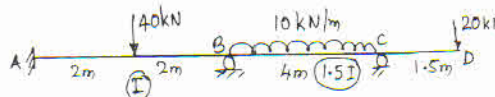

Fig Q2
- 2 Analyse a continuous beam shown in Fig Q2. Using slope deflection method. The support 'C' sinks by 10mm. Take $EI = 3000 \text{ kN-m}^2$. Draw BMD and elastic curve. (20 Marks)